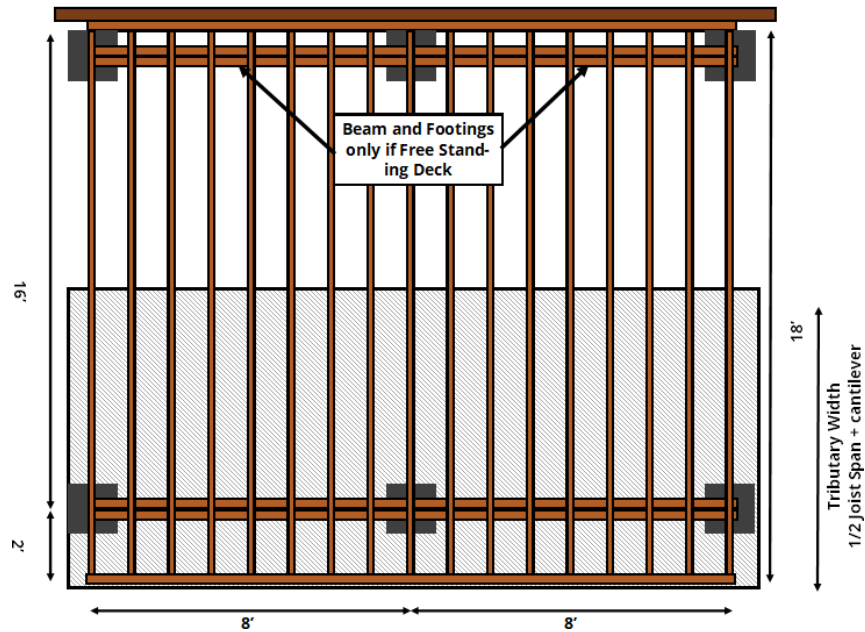

FIGURE 9 - SINGLE SPAN DECK PLAN FIGURE
- Single span decks are framed with joists that have one span between beams (not including overhang) as shown in Figure 9.
Tributary Width = ½ longest joist span₁ + ½ longest joist span₂ + cantilever (See Figure 8 and Figure 9)
Tributary Width (ft) (See Figure 8 and Figure 9)	Longest Beam Span (feet)